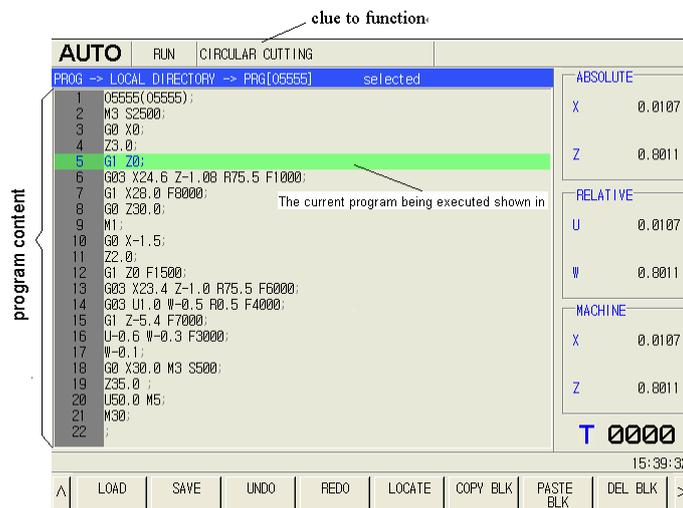

Fig.1-4
1. Display the current program content being executed shown in Fig.1-4. clue to function